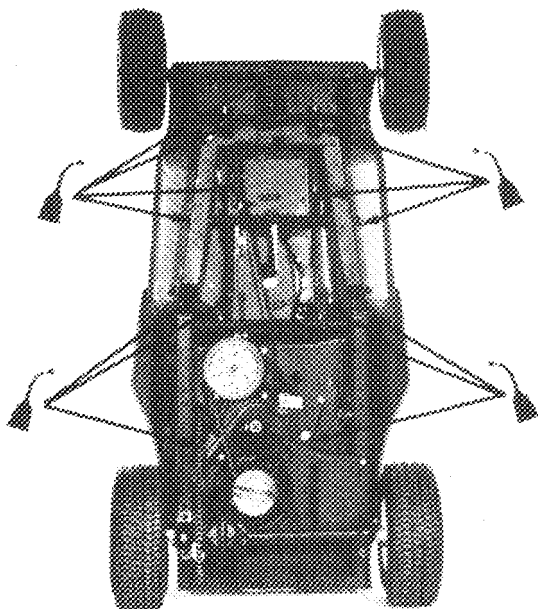
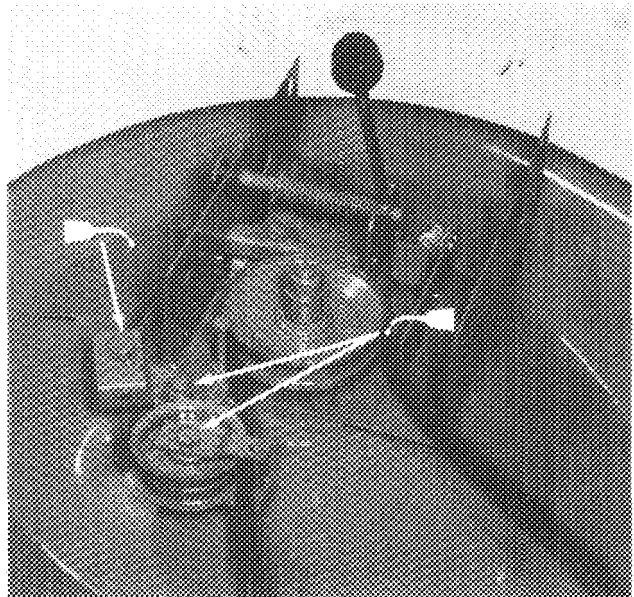

Figure 14
Figure 15
7. Lubricate pivot points in the steering, drive, brake and clutch linkage with light oil (Fig. 14). Also lubricate mower housing (Fig. 15).